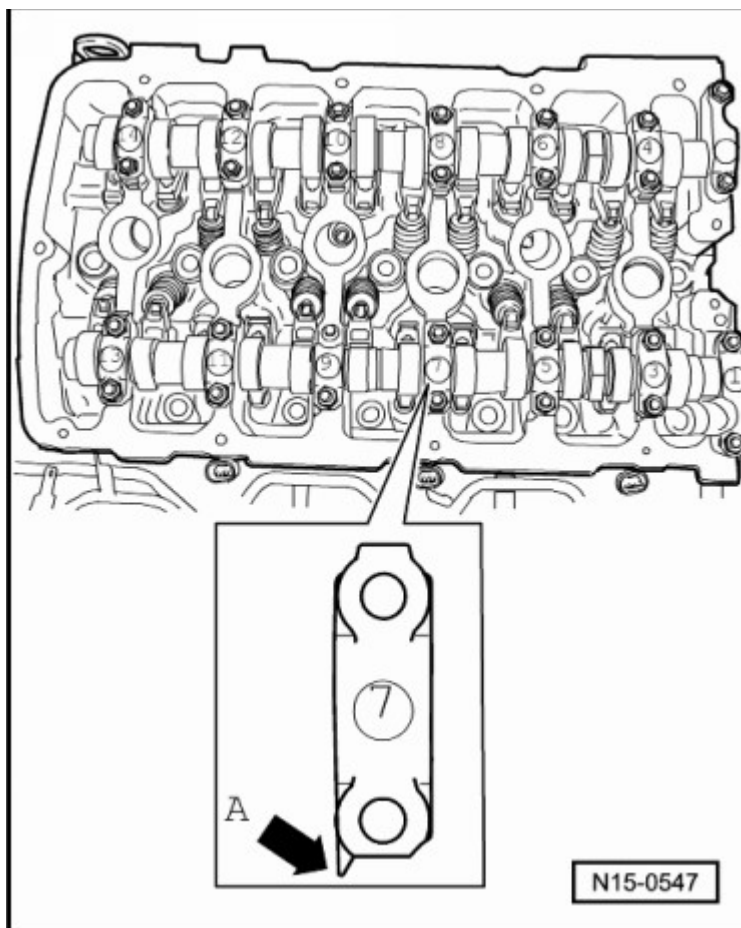

Fig. 13: Identifying Points Of Intake And Exhaust Camshaft Bearing Cap Face Outwards
- Installed location **Fig. 13**
- Installation order **Fig. 13**